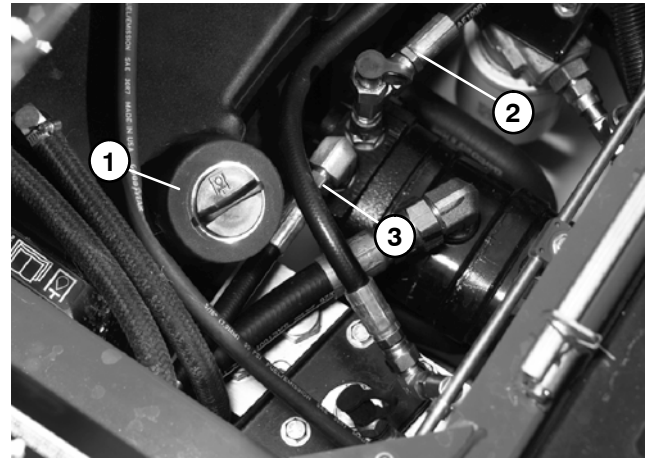

Figure 34
3. With the engine off and cutting decks lowered, install tester with pressure gauges and flow meter in series between the last gear pump section and one of the circuit hoses (Fig. 34). **Make sure the tester flow control valve is open.**